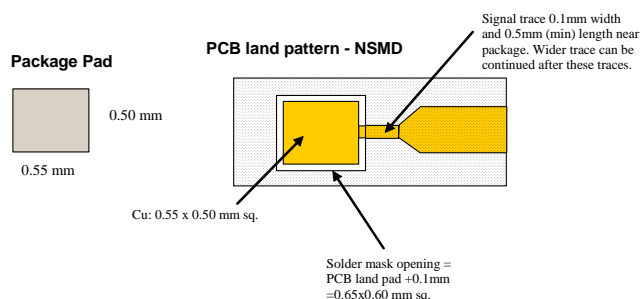
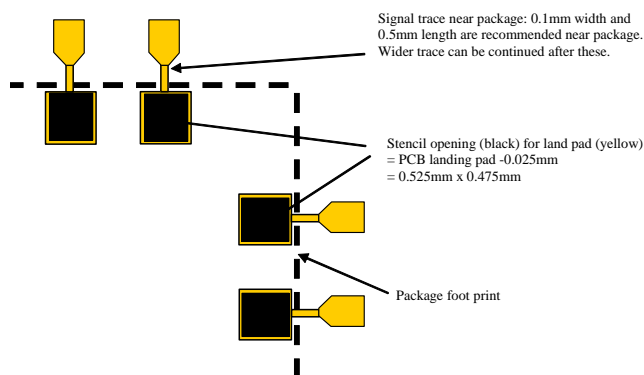

Figure 4. NSMD Solder Mask Design Guidelines
Figure 5. Stencil Design Guidelines
4. Use the NSMD (Non Solder Mask Defined) pattern guideline shown in Figure 4 for perimeter lands.
6. Stencil aperture size = PCB land pad – 0.025mm, (5-6) mil thick stencil as shown in Figure 5.
8. Signal trace connected to pads should be as symmetric as possible. Put dummy traces if there are no-connect (NC) pads, in order to have same length of exposed trace for all pads. Signal traces with 0.1mm width and min. 0.5mm length for all PCB land pad near package are recommended as shown in Figure 4 and Figure 5. Wider trace can be continued after the 0.5mm zone.